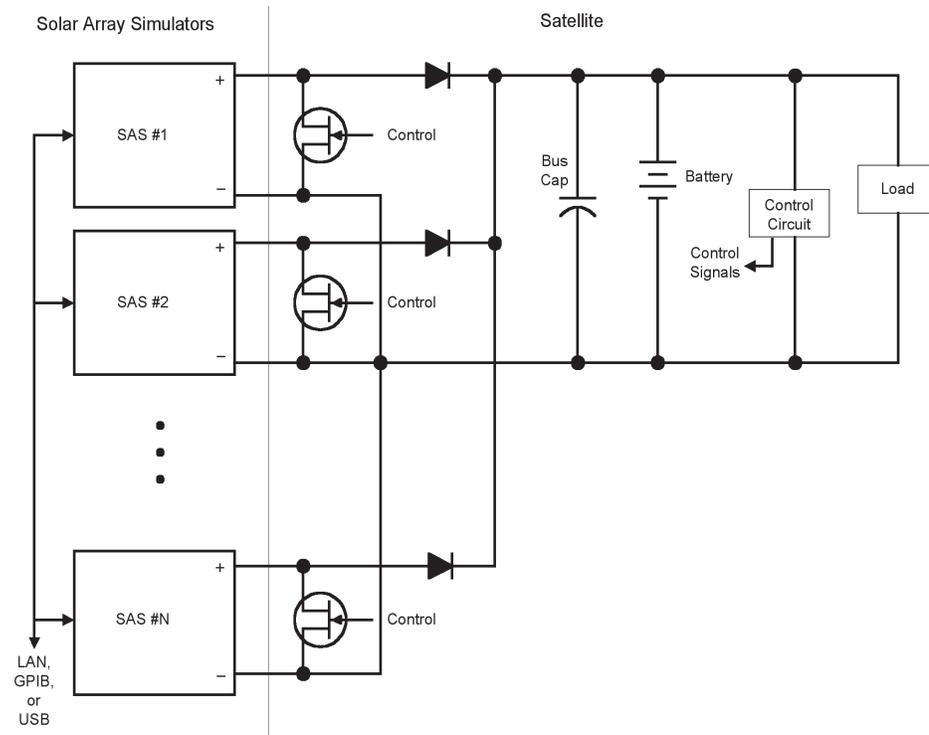

Figure 1. Example of a simplified sequential shunt regulation configuration
Sequential shunt regulation is widely used for regulating satellite bus voltages. A simplified sequential shunt configuration is shown in Figure 1.
mode (refer to data sheet) and the I-V curve is defined by these four parameters:  $I_{sc} = 5.00$  A,  $I_{mp} = 4.75$  A,  $V_{mp} = 120$  V and  $V_{oc} = 130$  V. The load is about 42 ohms. (Note that with these settings and the duty cycle used, the operating point is not the maximum power point.) The wire inductance between the SAS output and the shunt switch is very low. As the inductance increases, the voltage overshoot on the output voltage will increase, but will be limited by fast acting internal clamp circuits. The overshoot and undershoot in the current (Figure 3) are due to the internal output snubber, as part of the output capacitance, charging and discharging. Note that in Figure 1, the bus capacitor across the battery is required to smooth the bus voltage and current, lowering the ripple.
Figure 1 shows diodes in series with each output of the SAS (after the shunt). These diodes isolate the supplies so that when one shunt is on, the bus voltage and other SAS outputs are not pulled low. The diodes should have very fast recovery time (or they should be Schottky diodes); otherwise the power dissipation in the diode and the shunt FET will be high. Higher levels of noise will also occur if slow diodes are used, or if the FET rise and fall times are too fast. The latter can be controlled by adjusting the FET gate resistor. A snubber (RC) across the diodes may help reduce the switching noise and voltage overshoots. A heatsink may be needed to keep the FET or diode cool and within its temperature ratings.